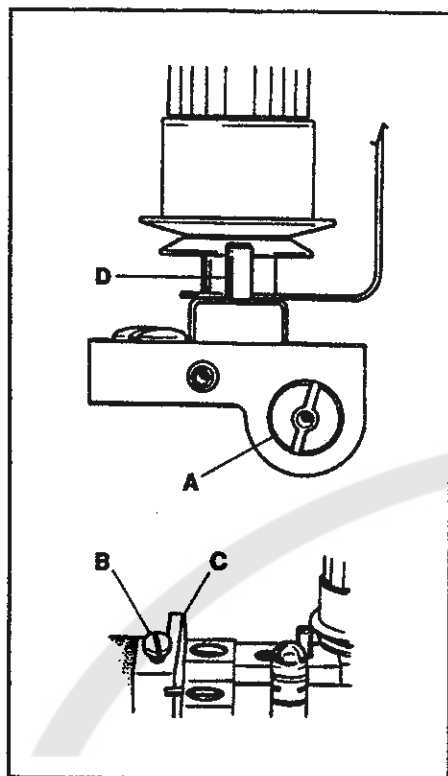

FIG. 35
The tension releaseshould start to function when the presser foot has raised approximately  $1/32"$  (0.8mm) above the surface of the throat plate and be entirely released when the presser foot has reached its highest position. Insert a large screwdriver into slot on the right end of shaft (A, Fig. 35), loosen screw (B) in lifter lever (C) and turn the screwdriver to raise or lower pins (D). Tighten screw (B).